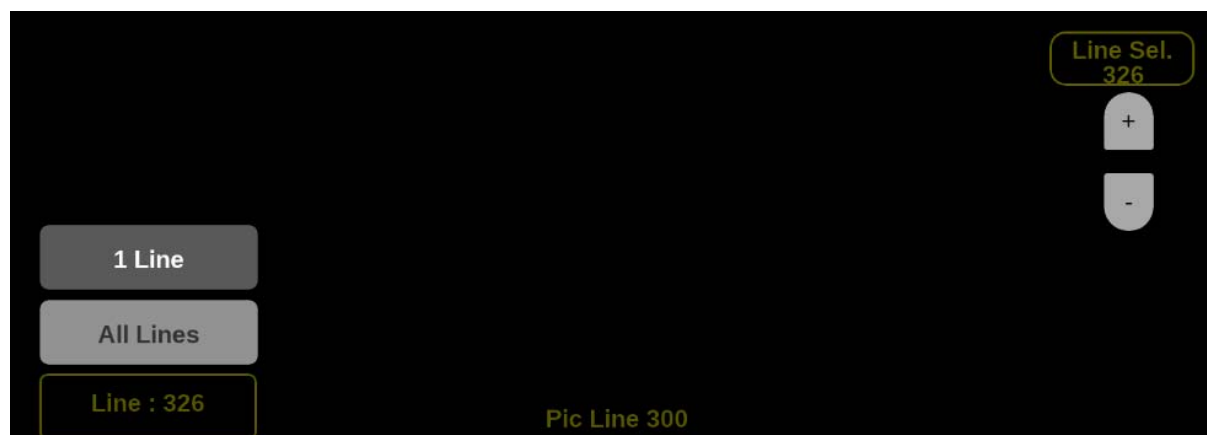

Figure 104: Diamond on-screen tools – Line Select
1. Select the **Lines** button at the bottom of the application. (See Figure 104.)